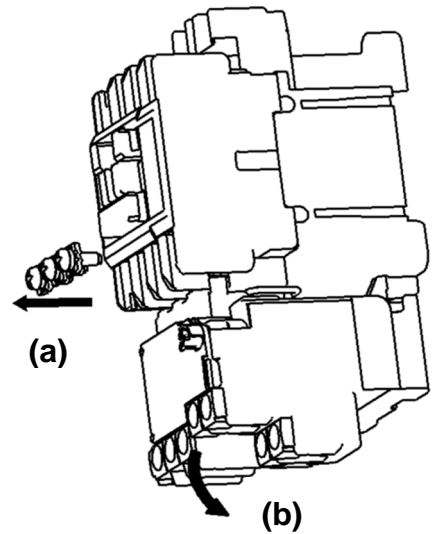

Figure 8.2 Removing from the Magnetic Contactor
- Remove the thermal overload relay according to the following procedure. (Figure 8.2)